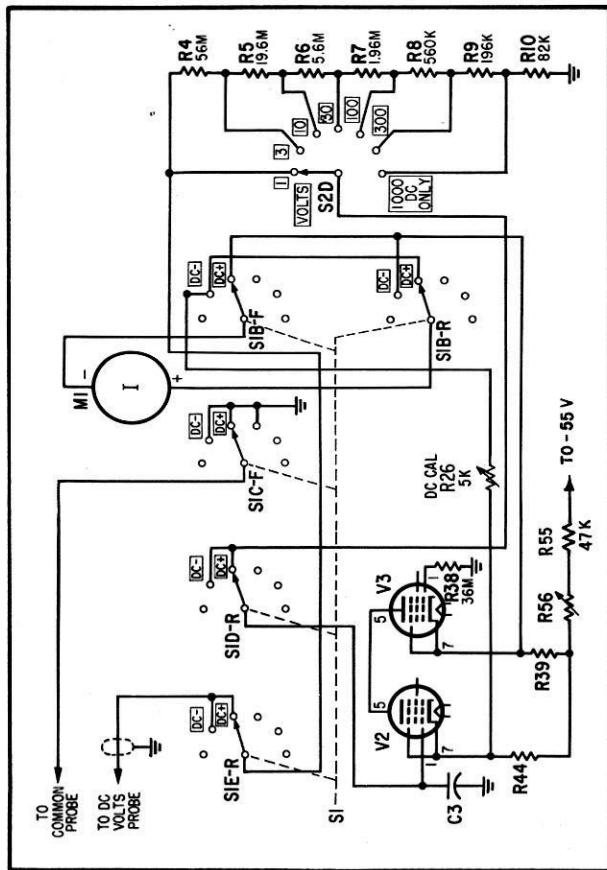

Figure 4-3. DC Voltmeter Circuit, Schematic Diagram
b. DC VOLTMETER CIRCUIT (see figure 4-3). - The input voltage is fed through 36 megohm isolation resistor R3 (in DC probe) to function switch S1. From the function switch the voltage is fed to the range switch and then to the grid of V2 in the bridge circuit. This unbalances the bridge as described in paragraph 4-2a and causes the meter pointer to deflect in proportion to the magnitude of the input voltage. Isolating resistor R3, contained in the dc probe, serves to isolate the shunt capacitance of the shielded test lead from the circuit under test. R3 in series with resistors R4 through R10, forms a voltage attenuator. The attenuation is such that the voltage applied to the bridge circuit is the same for full scale deflection on each range. Calibration of the entire dc measuring circuit is accomplished by the internal calibration potentiometer R26. Either plus or minus dc voltages may be measured by setting the function switch to the desired polarity. The high impedance of the voltage attenuator minimizes the loading effect on the circuit under test.